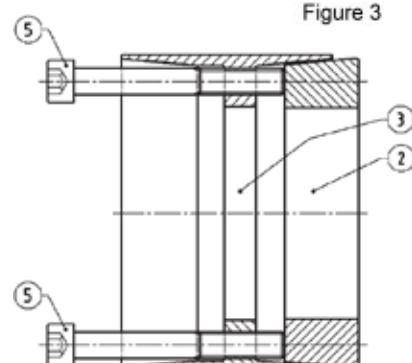

Figure 3
4. Transfer locking screws used for dismantling of collar Item 1 into all push-off threads in center collar Item 3 (see Figure 3). Release collar Item 2 by repeating procedures outlined in Step 3.